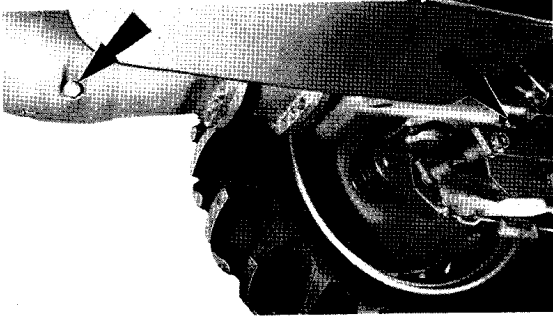

FIG. 20
1. Remove the two drain plugs (Fig. 20) and the filler plug.